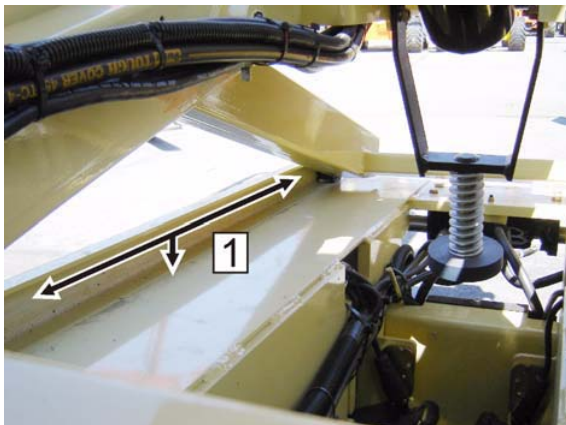

Figure 6-2. Lower Slide Pad Channel
Figure 6-2 hydraulic principal
2. Locate the Lower and Upper Slide Pads and remove all dirt and debris from the slide channel area (1, 2). Refer to Figure 6-2., Lower Slide Pad Channel.
3. Apply a layer of grease along the inside and bottom of the lower slide channel (1) on both sides of the machine.